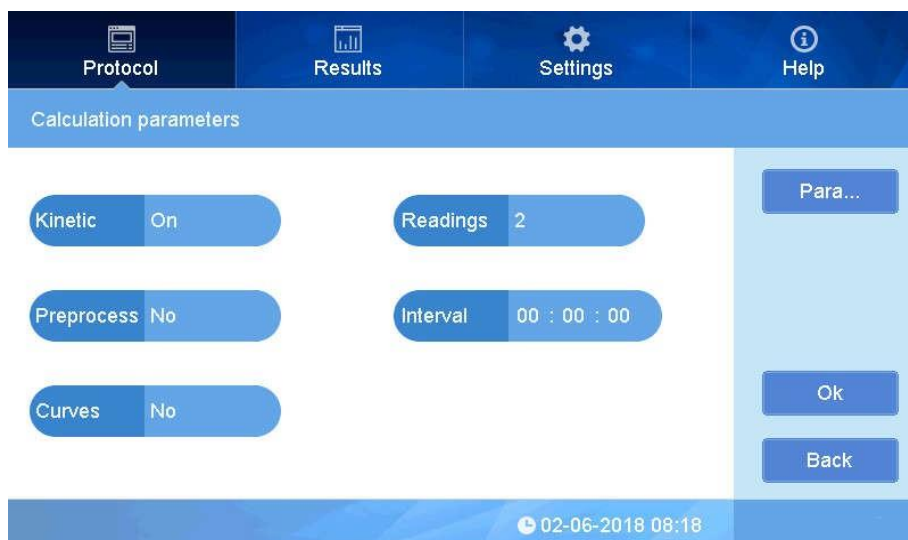

Fig.26
- On interface “protocol”, click white area near “Calculate” to set “Calculate parameters”. Click button right beside Kinetic to choose Open or Close. Set parameters when it is “On”(Fig 26).